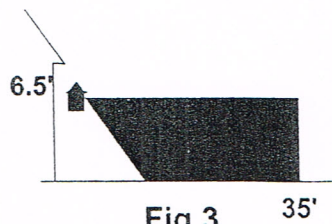

Fig.3
- Installation of a height of 6.5' at 20°C, the lantern will provide a detection distance up to 35' (See fig.3). The sensitivity will be higher as the environmental temperature is getting cool. You may wish to make adjustment again when season changes.